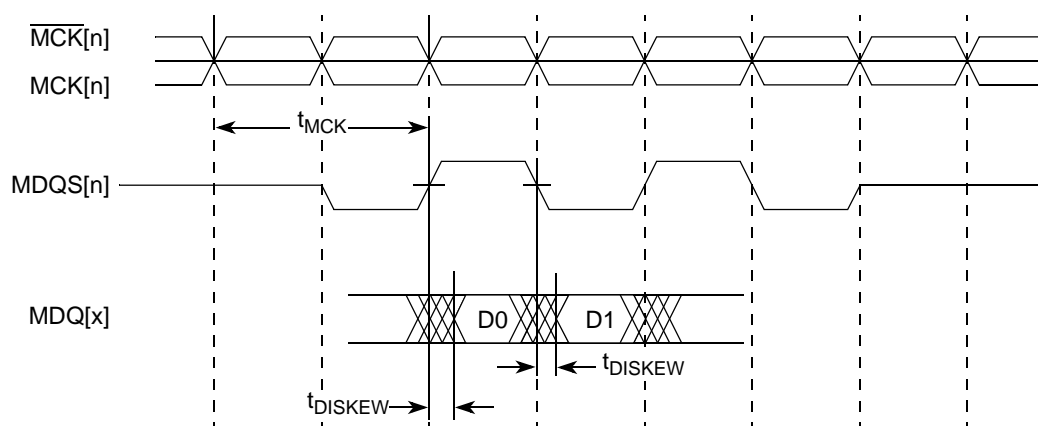

Figure 3. DDR SDRAM Input Timing Diagram (t_{DISKEW})
- The amount of skew that can be tolerated from MDQS to a corresponding MDQ signal is called t_{DISKEW} . This can be determined by the following equation: $t_{DISKEW} = \pm (T/4 - \text{abs}(t_{CISKEW}))$, where T is the clock period and $\text{abs}(t_{CISKEW})$ is the absolute value of t_{CISKEW} . See Figure 3.
Figure 3 shows the DDR SDRAM input timing diagram.